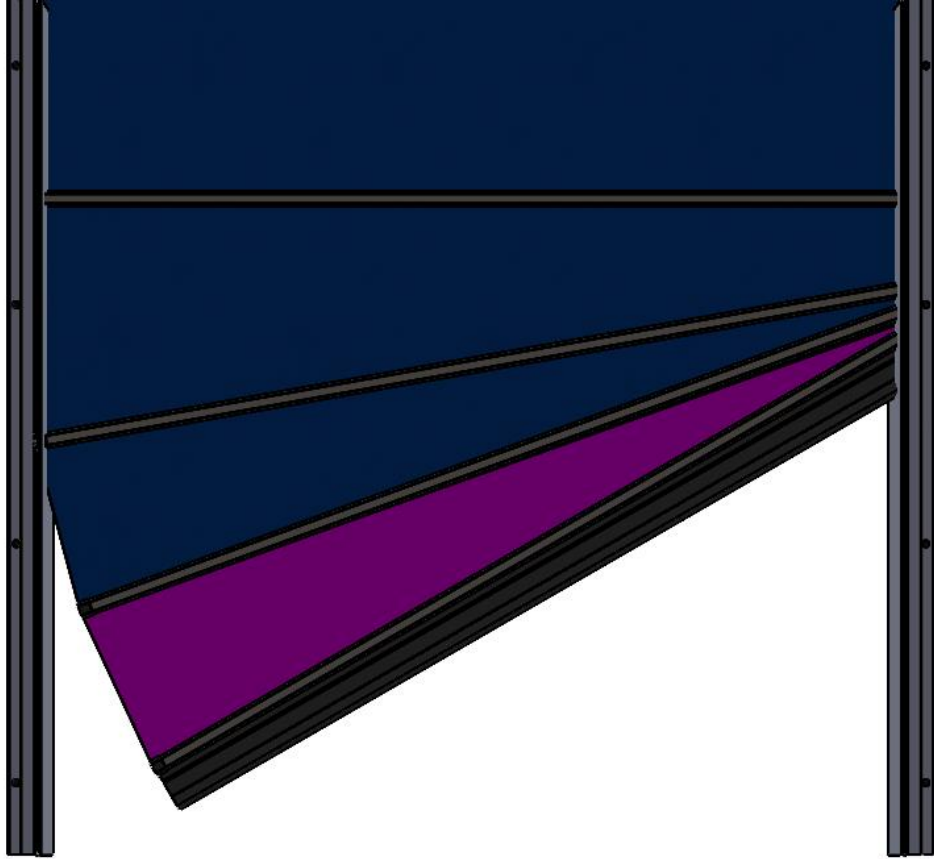

Figure 1 LIFT DOOR AND PULL OUT OF TRACK
2. At ground level, starting at the bottom, gather the Door material and Wind Bars along one side and lift until they can be pulled free from the Track on that side. The Wind Bar above the Panel to be replaced should be free from the Track. (Figure 1 LIFT DOOR AND PULL OUT OF TRACK)